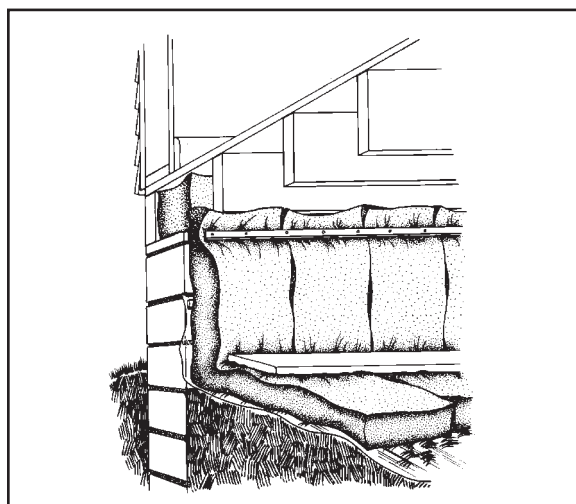

Figure 1
- **Crawl spaces beneath heated spaces.** To control moisture, a polyethylene moisture barrier should be placed over the entire ground and extended up four to six inches on the crawl space walls and sealed to the walls. The walls of the crawl space can be insulated with batts or with rigid insulation placed either on the exterior or interior of the walls (See Figure 1).